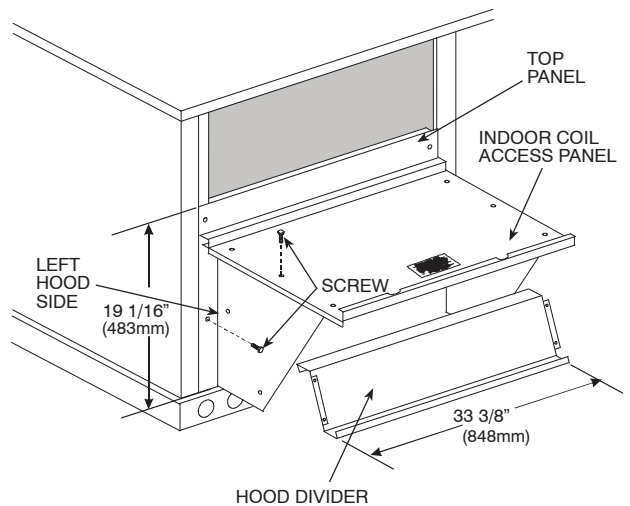

Fig. 13 - Economizer Hood Construction
2. Swing out indoor coil access panel and insert the hood sides under the panel (hood top). Use the screws provided to attach the hood sides to the hood top. Use screws provided to attach the hood sides to the unit. (See Fig. 13.)
4. Insert the hood divider between the hood sides. (See Fig. 13 and 14.) Secure hood divider with 2 screws on